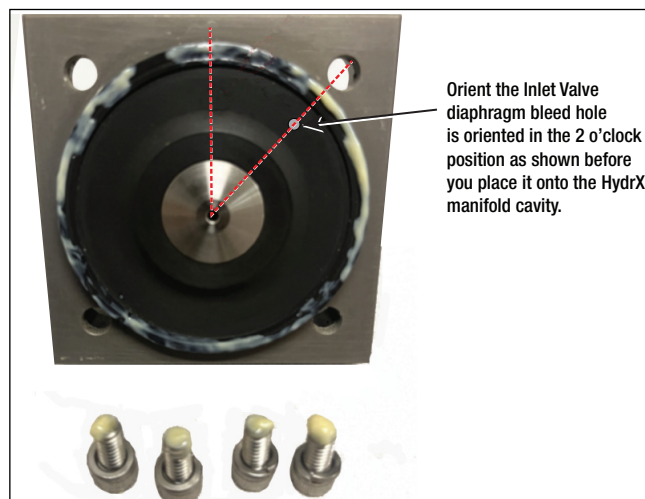

Figure 9. Inlet Valve Assembly/Mounting Screws Greased for Installation.
- Apply a small amount of petroleum grease to the outer edge of the Inlet Valve diaphragm (the diaphragm also functions as the gasket for this valve). Apply a small amount of petroleum grease to the threads of the four hex socket mounting screws. Ensure the lock washers provided are installed on each screw (see Figure 9).